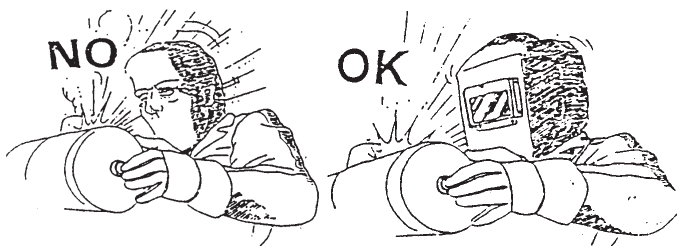

Fig.2
• Warning: Never stare at an electric arc without suitable eye protection (Fig. 2).